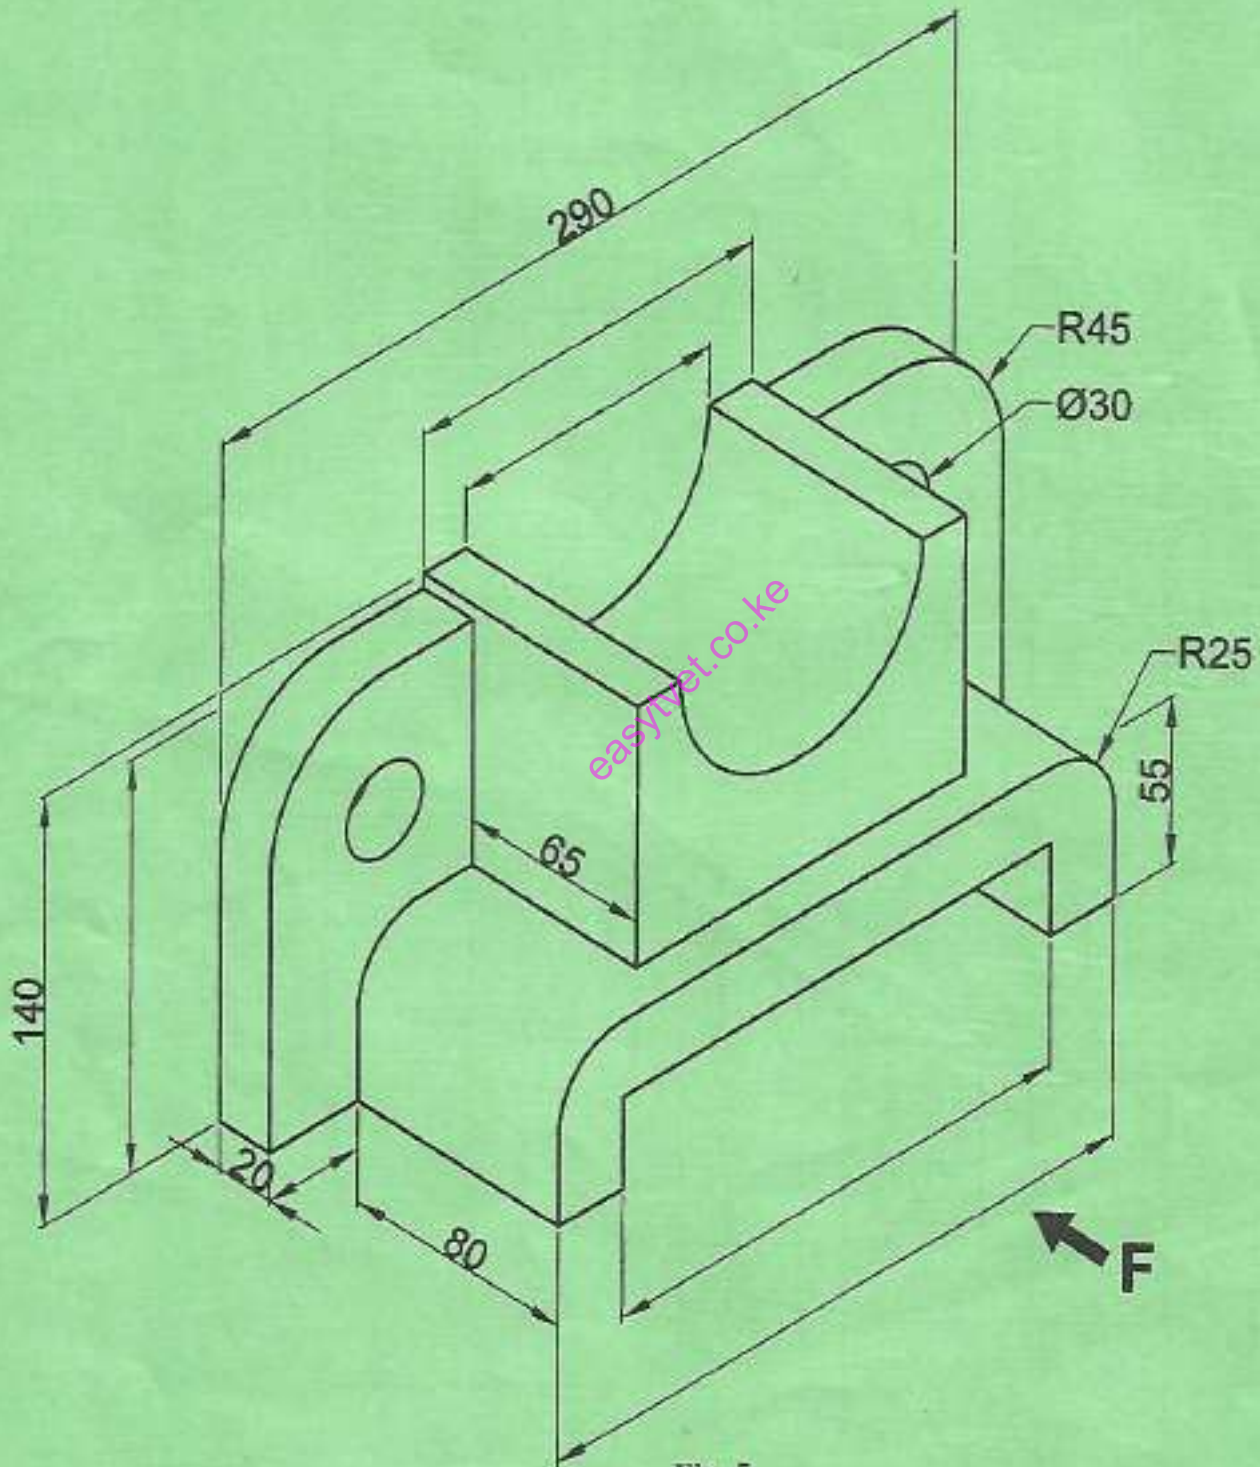

Fig. 5
6. Figure 5. Shows a shaped block. Approximate the dimensions that have been left out. Draw the following views in First and projection: